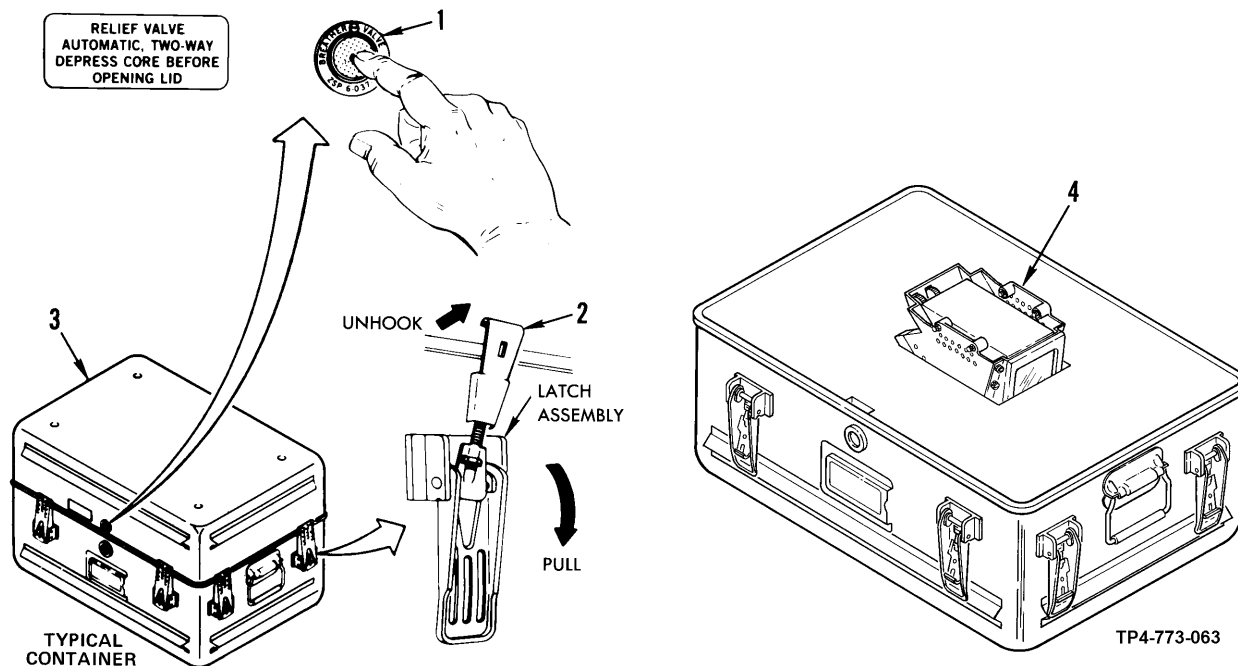

Figure 5-2. Control Panel Assembly Removal from Shipping and Storage Container
- a. Press container pressure relief valve (1, figure 5-2).
- b. Open container latches (2).
- c. Remove container lid (3) and set aside in a clean dry area.
- d. Carefully remove control panel assembly (4) from container.